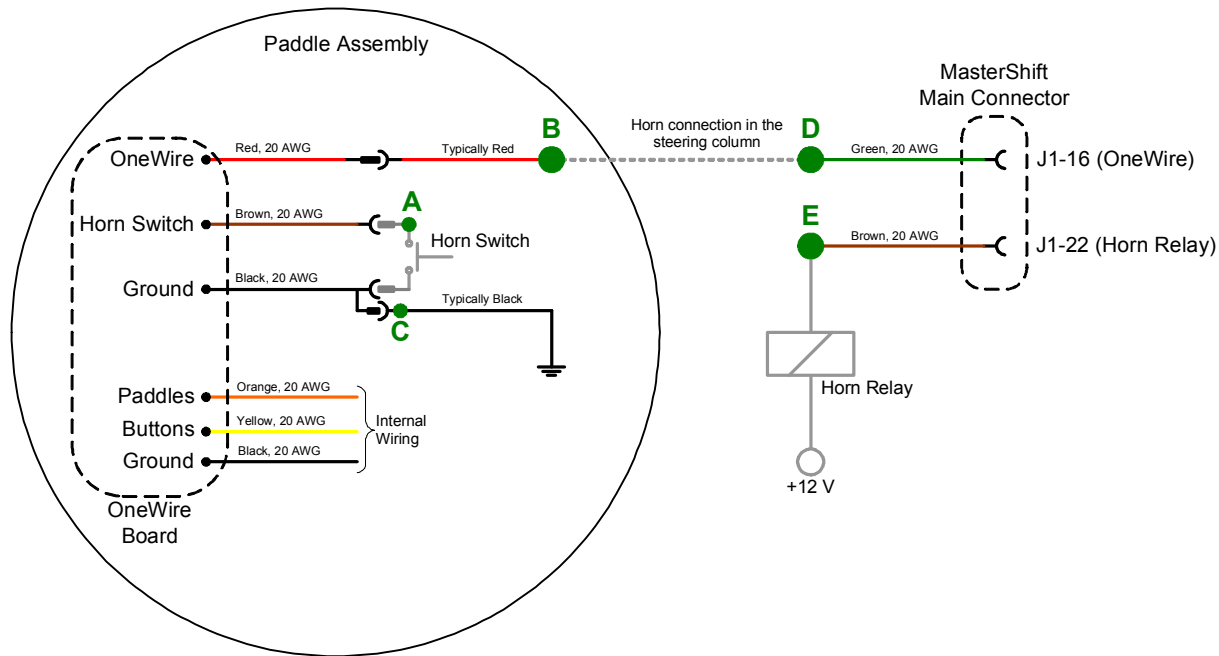

Figure 15: Paddle Shifter OneWire Connections
3. Connect the green wire coming from the Manual Shifter main connector J1-16 to the wire that goes up the steering column (see connection **D** in Figure 15: Paddle Shifter OneWire Connections). An inline crimp connector is supplied for this purpose.
4. Connect the brown wire coming from the Manual Shifter main connector J1-22 to the wire that goes away from the steering column, to the horn relay (see connection **E** in Figure 15: Paddle Shifter OneWire Connections). An inline crimp connector is supplied for this purpose.